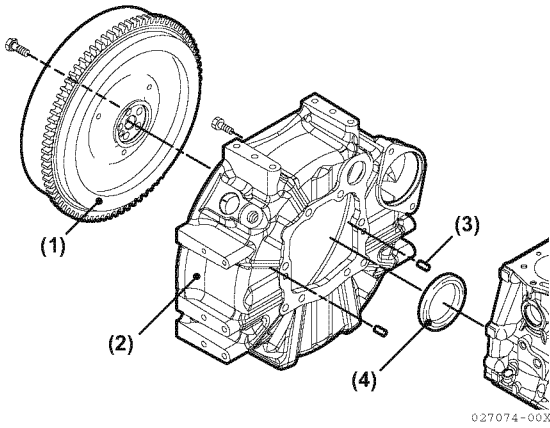

Figure 6-52
1. Remove the flywheel (**Figure 6-52, (1)**) from the crankshaft.
2. Remove the bolts (**Figure 6-52, (2)**) from the flywheel housing assembly. Remove the flywheel housing from the engine.